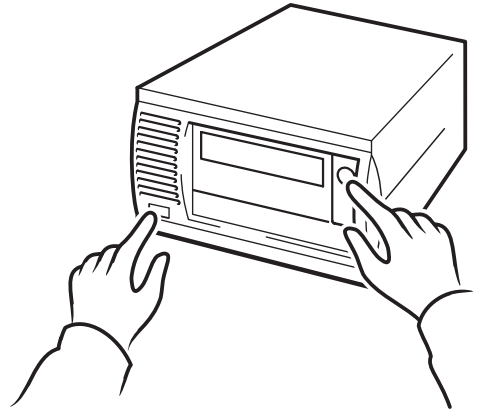
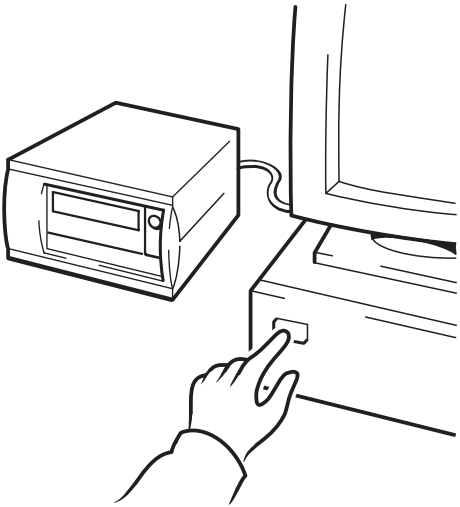

Figure 10b: using HP OBDR, step 2
Figure 10c: using HP OBDR, step 3
- 2 Hold down the eject button Keeping the eject button pressed down, power on your tape drive (see Figure 10b) and switch on your server (see Figure 10c). This activates the HP One-Button Disaster Recovery process. Release the button as soon as the Ready LED on the front panel flashes in the OBDR sequence. This is a repeated pattern of: flashing-steady on-flashing.